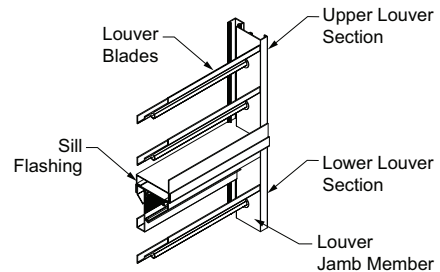

Fig. 3.2 Multi-Section High
2. Install the lower left section (as viewed from the exterior) following steps 2-4 above. If multiple sections high, install the upper left section(s) following steps 2-4 above. See fig. 3.2.